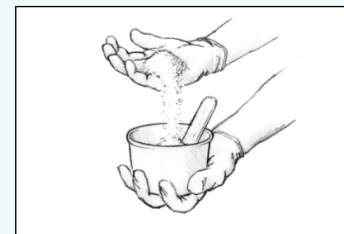

Figure 4 Stir in small quantities of filler until the desired consistency is reached.
2. Blend in small quantities of the appropriate filler until the desired consistency is reached (Figure 4). Ensure the filler is thoroughly blended before the mix is applied.